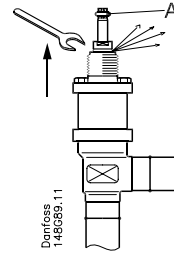

Fig. 6
**Pressure equalization (fig. 6)**
Tighten the bonnet with a torque wrench, to the values indicated in the table (fig. 4). Tighten the packing gland with a torque wrench, to the values indicated in the table (fig. 6).